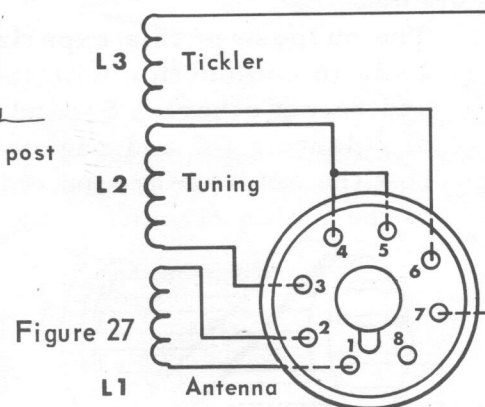

Figure 27
- 8 Snip off the extra wire protruding from pins 1 and 2. This completes the winding of the antenna coil, L-1. See Figure 27 and the coil-winding chart, Figure 30.
- 3 Each end of the wire on coils L-1, L-2 and L-3 for the shortwave band solder to the same pin numbers as on the broadcast band coil. See Figure 27. Information concerning the number of turns and length of wire for each coil may be obtained from the coil winding chart, Figure 30.